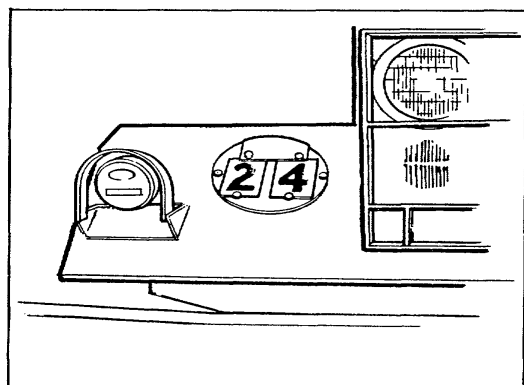

Figure 23. Sign installed on sloping fender (slope angle less than 30° from vertical).
2. Install the sign to the fender with two bolts (3/4 inch long), P/N 120741, NSN 5306-00-012-0741, two washers, P/N 138538, NSN 5310-00-272-4118, and two nuts, P/N 120368, NSN 5310-00-012-0368. Tighten bolts securely, Figure 23.